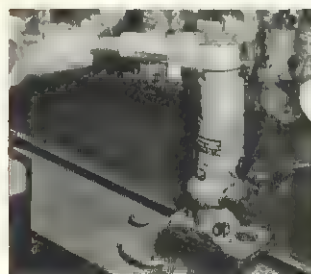

FIG. 64-1
6. Turn the pump over and fasten it in a vise, holding it by the flange. Unscrew the delivery valve holding nut, Fig. 64-1. Remove the delivery valve spring and with the aid of the delivery